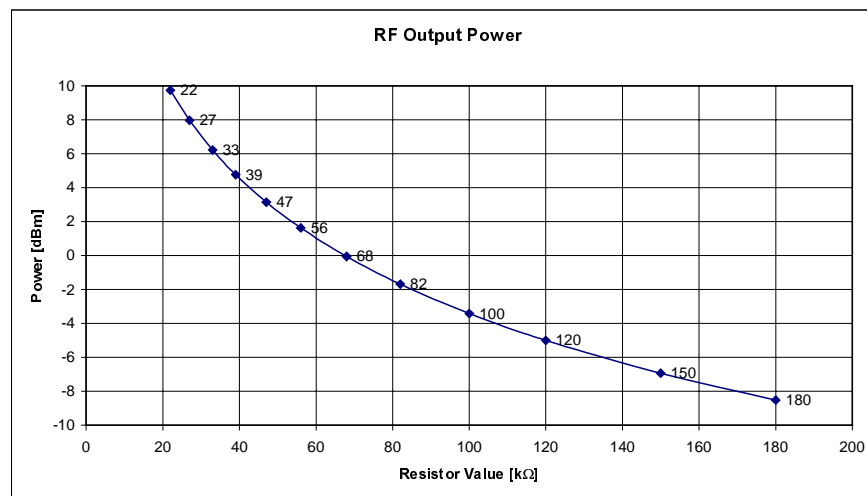
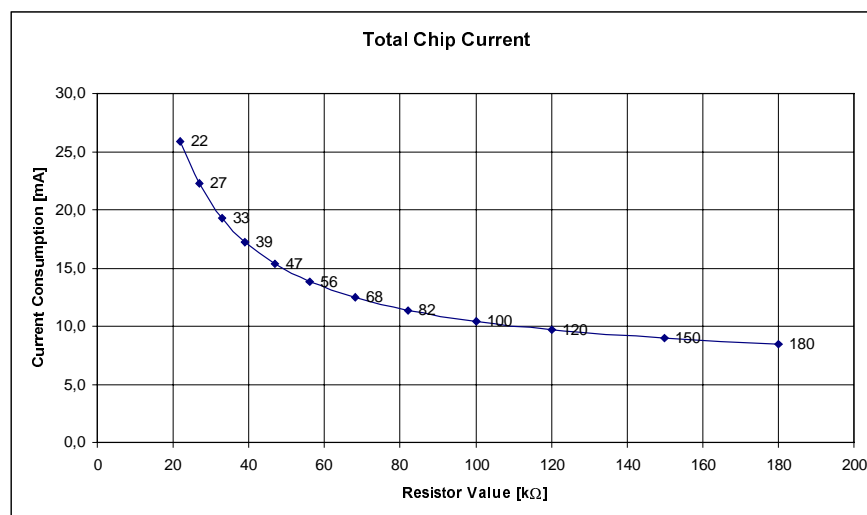
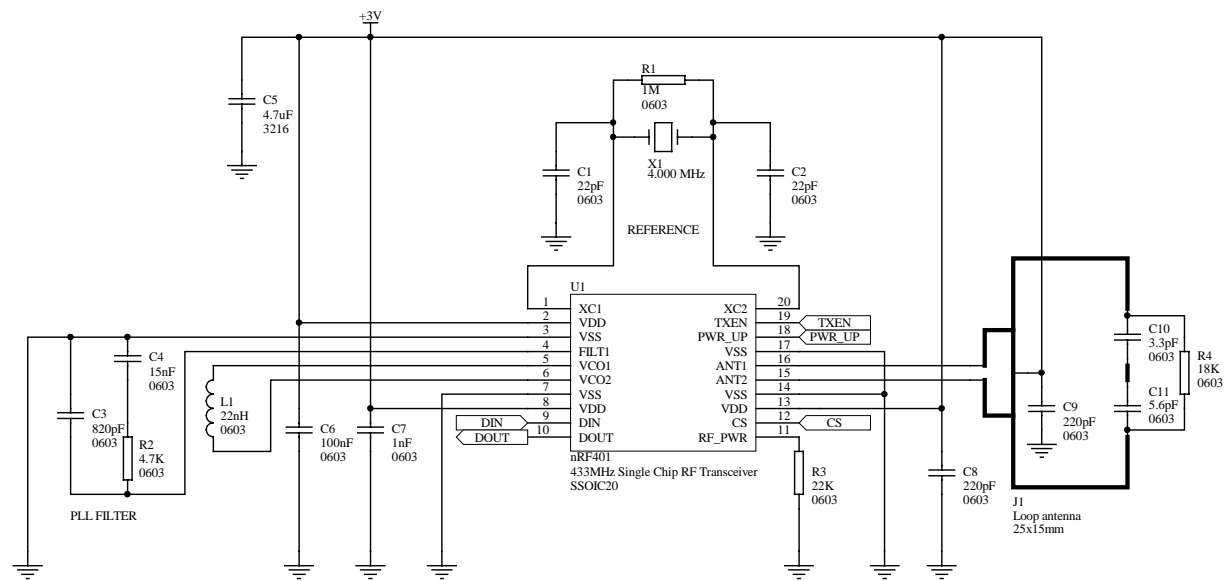
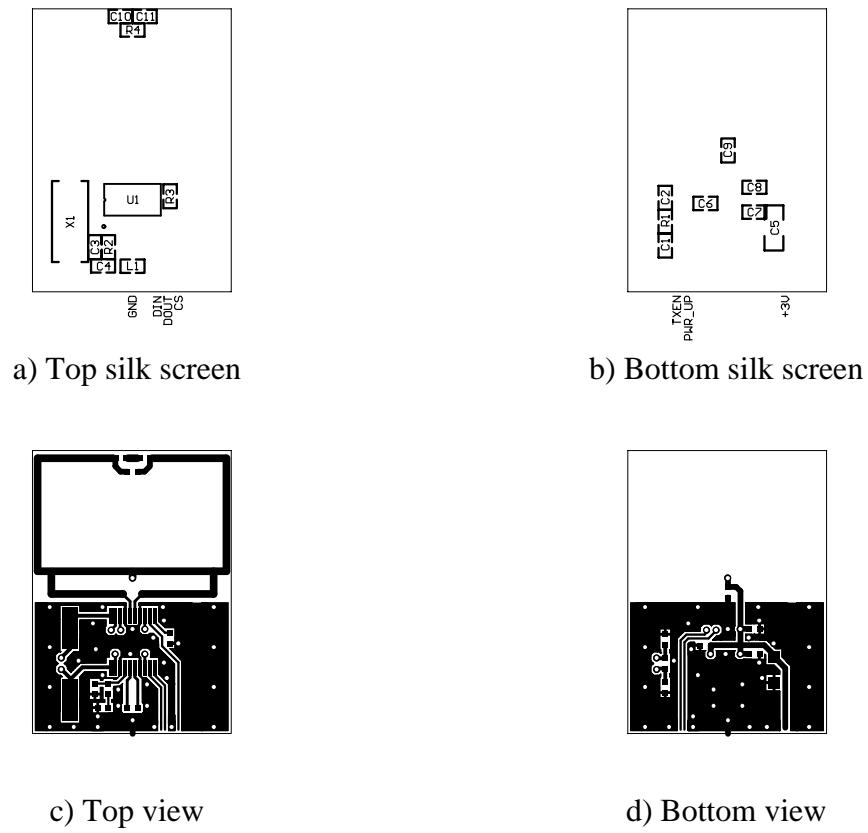

Figure 8. RF output power vs. external power setting resistor (R3) for nRF401.
Figure 9. Total chip current consumption vs. external power setting resistor (R3) for nRF401.
Figure 12. nRF401 application schematic.
Figure 13. PCB layout (example) for nRF401 with loop antenna.
Figure 12 shows a typical application schematic with a differential loop antenna on a Printed Circuit Board (PCB). The output stage (PA) consists of two open collector transistors in a differential pair configuration. VDD to the PA must be supplied through the collector load. When connecting a differential loop antenna to the ANT1/ANT2 pins, VDD should be supplied through the centre of the loop antenna as shown in Figure 12.
The external bias resistor R3 connected between the RF\_PWR pin and VSS in Figure 12 sets the output power. The RF output power may be set to levels up to +10dBm. In Figure 8 the output power is plotted for power levels down to, but not limited to, -8.5dBm for a differential load of 400Ω. DC power supply current versus external bias resistor value is shown in Figure 9.
The synthesiser loop filter is an external, single-ended second order lag-lead filter. The recommended filter component values are: C3 = 820 pF, C4 = 15 nF, and R2 = 4.7 kΩ, see Figure 12.
The VCO inductor placement is important. The optimum placement of the VCO inductor gives a PLL loop filter voltage of 1.1 ± 0.2 V, which can be measured at FILT1 (pin4). For a 0603 size inductor the length between the centre of the VCO1/VCO2 pad and the centre of the inductor pad should be 5.4 mm, see Figure 13 (c) (layout, top view), for a 2 layer, 1.6 mm thick FR4 PCB.
C1 and C2 are 0603 SMD capacitors as shown in the application schematic, see Figure 12 and Table 9.  $C_{PCB1}$  and  $C_{PCB2}$  are the layout parasitic capacitance on the circuit board. Layout parasitics are significant when using SMD crystals on PCBs with ground planes. Changes in  $C_L$  leads to changes in crystal frequency.
The VCO inductor placement is important. The optimum placement of the VCO inductor gives a PLL loop filter voltage of  $1.1 \pm 0.2$  V, which can be measured at FILT1 (pin4). For a 0603 size inductor the length between the centre of the VCO1/VCO2 pad and the centre of the inductor pad should be 5.4 mm, see Figure 13 (c) (layout, top view), for a 2 layer, 1.6 mm thick FR4 PCB.
Figure 13 shows a PCB layout example for the application schematic in Figure 12. A double-sided FR-4 board of 1.6mm thickness is used. This PCB has a ground plane on the bottom layer. Additionally, there are ground areas on the component side of the board to ensure sufficient grounding of critical components. A large number of via holes connect the top layer ground areas to the bottom layer ground plane. There must **NOT** be a ground plane shielding the radiation from the antenna.